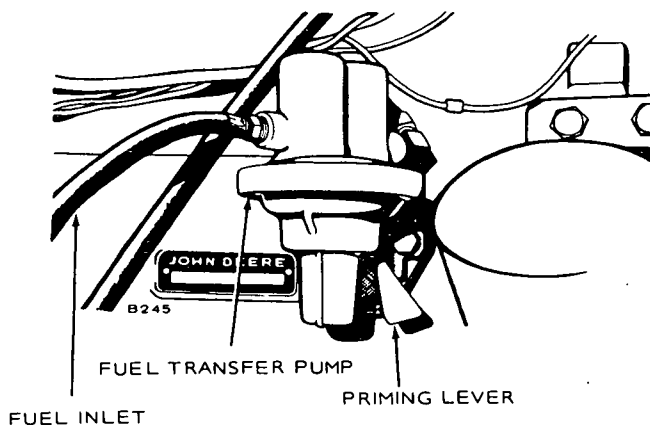

FIGURE 19. PRIMING FUEL SYSTEM
1. Loosen bleed plug on top of fuel filter. Pump primer lever (Figure 19) until a solid stream of fuel, free of air bubbles, flows from bleed plug.